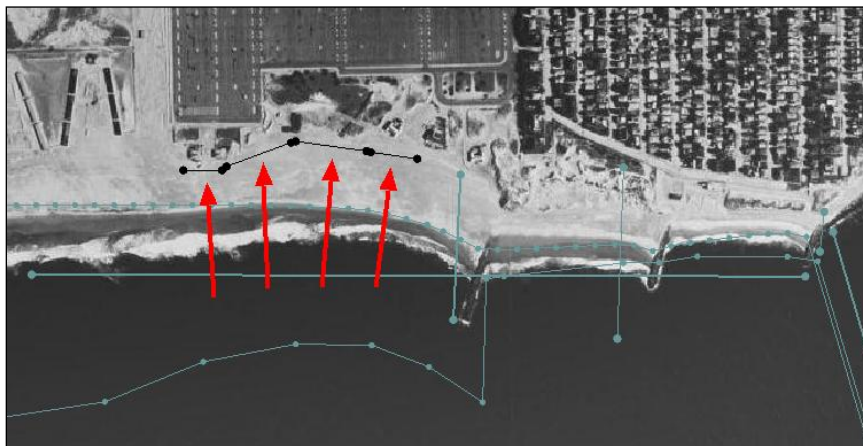

Figure 5 Location of the seawall arcs
2. Using the **Select Feature Arc**  tool, while holding down the *Shift* key click on each arc to select all four (Figure 5) .